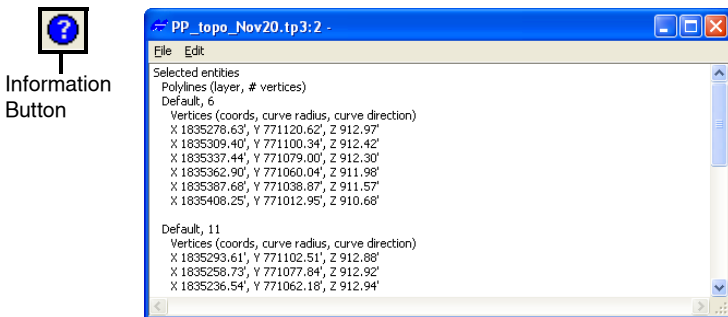

Figure 4-9. Click Information Button and View Selected Entities
2. Click the activated **Information** button on the toolbar or right-click on the mouse and click **Properties**. A text file opens, displaying linework properties. (Figure 4-9).